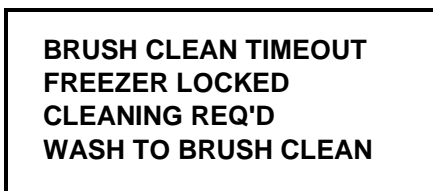

Figure 13
1. The brush clean timer has elapsed (maximum setting of 14 days). (See Figure 13.)